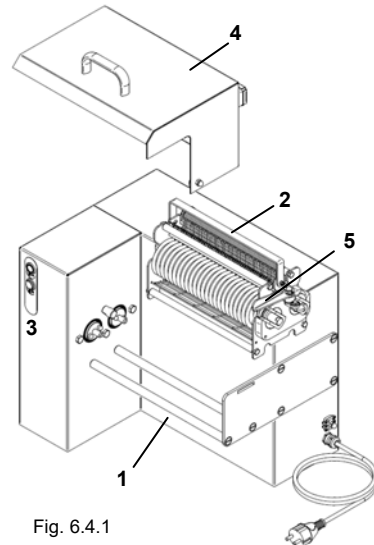

Fig. 6.4.1
- Turn the interlocked blade cover (Ref. 4 Fig. 6.4.1) by 90° and push it towards the left: the blade guard will come off.
- Detach the blade cartridge lever (Ref. 5 Fig. 6.4.1).
- Take the cartridge (Ref. 2 Fig. 6.4.1) off the bars of the base using the handle and pull it so that the blade pins detach from the drive mechanism.
- Place the cartridge on the bars of the base (Ref. 1 Fig. 6.4.1).
- Raise the interlocked blade guard (Ref. 4 Fig. 6.4.1).
- Turn the cartridge lever (Ref. 5 Fig. 6.4.1) so that the blade roller pins insert into the drive pins, until they slot into place.
- Close the interlocked blade guard (Ref. 4 Fig. 6.4.1).
- Press the controls (Ref. 3 Fig. 6.4.1) to switch the machine on or off.
**Handle the blade cartridge always through the appropriate handle (Ref. 2 Fig. 6.4.1) and protect the hands with Kevlar cut-resistant gloves.**